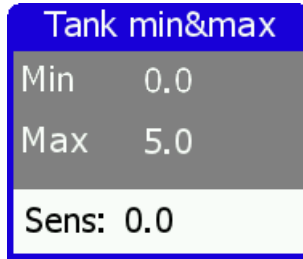

Figure 41: Window for setting the tank minimum and maximum values. Your values will be different.
4. Select the *Tank:T1 min/max* from the menu. Figure 41 shows an example.